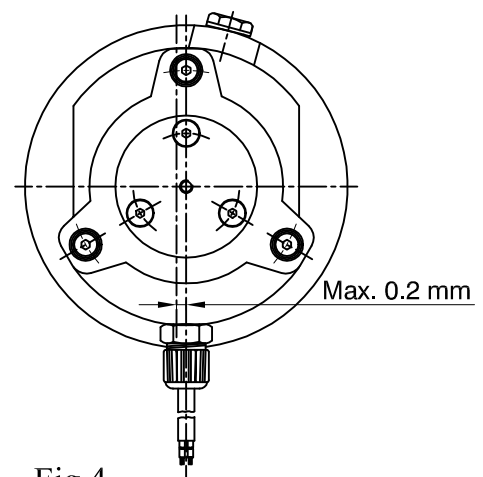

Fig.4
- The eccentricity of the shaft against the fixing hole P.C.D. must not exceed 0.2 mm. ( Fig. 4 )